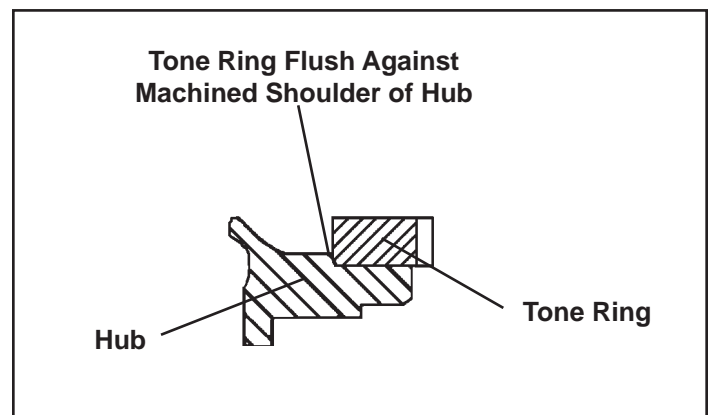

FIGURE 12 - TONE RING HEATED PRESS FIT TO HUB
3. Uniformly heat the tone ring to approximately 350° F. Install the ring on the machined diameter of hub making certain it fits squarely on the machined hub diameter and that the backside of the ring (side opposite the teeth) is flush with the machined shoulder. See Figure 12. **Cold pressing of the tone ring onto the hub is not recommended.**